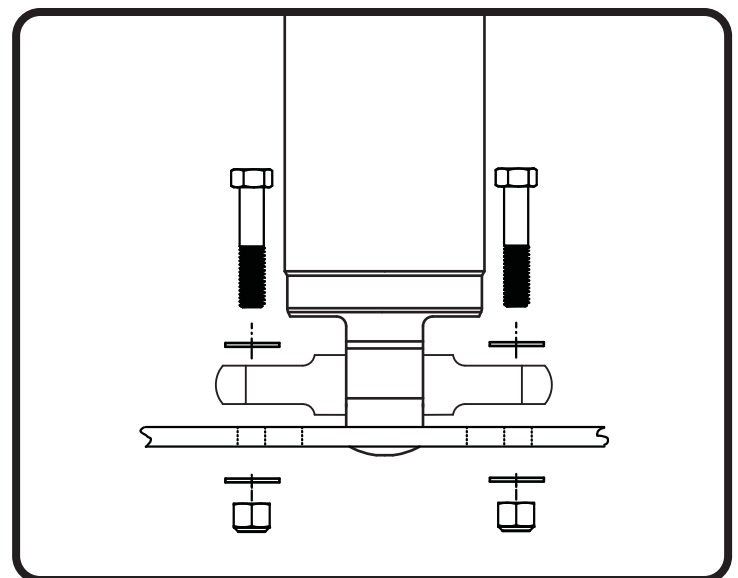

Figure 5
7. Raise the lower arm up to the ShockWave and attach the shock to the arm using the 5/16" x 1 1/4" bolts, washer, and Nylok nuts supplied with the lower arms (Figure 5). Torque to **17 ftbs**.